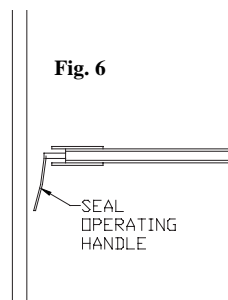

Fig. 6
Move the last panel into place. If you have retractable seals, you will need to extend two seals on the last panel in the opening. The first seal is located in the trail edge of the panel (Fig. 6). Insert the operating key over the exposed shaft in the vertical edge and turn key 190 degrees clockwise to set the seal(s). (The shaft may be hidden from view by the expanding post). To extend the second seal, insert the operating key over the shaft located on the face of the panel (Fig. 7). Turn the key clockwise until you feel resistance against the wall. This action extends the closure and completes the acoustical seal. Note: Make certain you apply sufficient pressure to compress the vinyl seal against the wall.